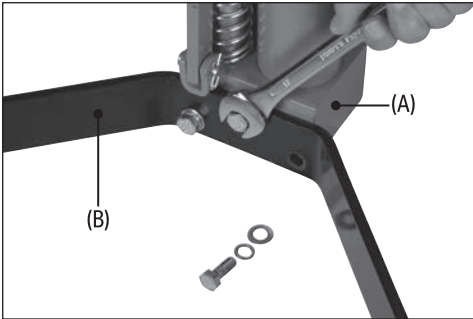

Fig. 1
3. Gripping the transport handles (9), move the jack into position beneath the vehicle.
4. Ensure that the release valve is closed (Fig. 1) and operate the pump pedal (6) to extend the ram until the cradle (3) contacts the transmission system.